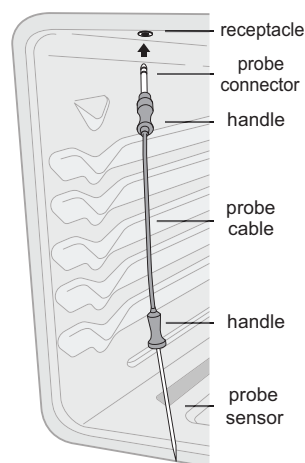

Figure 25: Probe receptacle insertion
The probe receptacle is located at the top of the oven cavity as shown in Figure 25.
Handle the meat probe carefully when inserting and removing from food or probe receptacle. Do not use kitchen utensils, such as tongs, to pull on meat probe cable when inserting or removing from food or receptacle. Use the provided handle, as shown in Figure 25. To avoid possibility of burns after cooking, carefully unplug meat probe using a pot holder to protect hands.
- 2. Plug the meat probe into the probe receptacle located on the top of the oven cavity. When the meat probe is correctly plugged into the receptacle, the probe icon will illuminate in the oven control display (Figure 25).